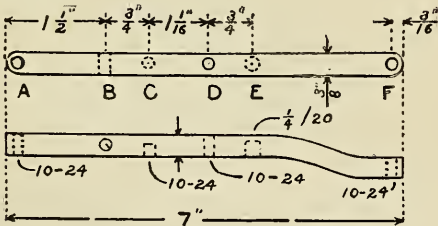

FIG. 29. DETAILS OF KEY
Fig. 29 is a detail drawing of this key. Six holes, (A), (B), (C), (D), (E) and (F) are located and bored in the positions indicated in the illustration. (A) and (D) pass all the way through the lever and are threaded with a 10-24 tap to receive a thumbscrew having a similar thread. (F) also passes all the way through but is not threaded. A 10-24 brass machine screw  $\frac{1}{2}$  inch long under the head passes through